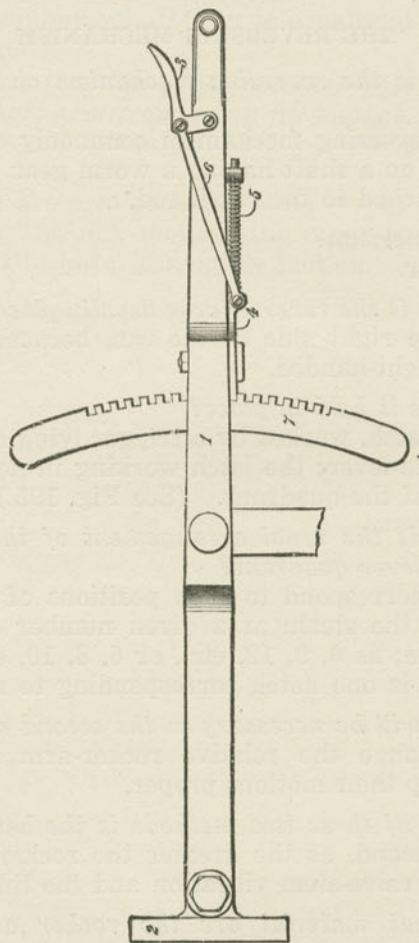

Fig. 195. Reverse-lever and Attachments.
A. By a latch, worked by a trigger lying alongside the handle of the lever; the latch working in notches on the upper side of the quadrant. (See Fig. 195.)